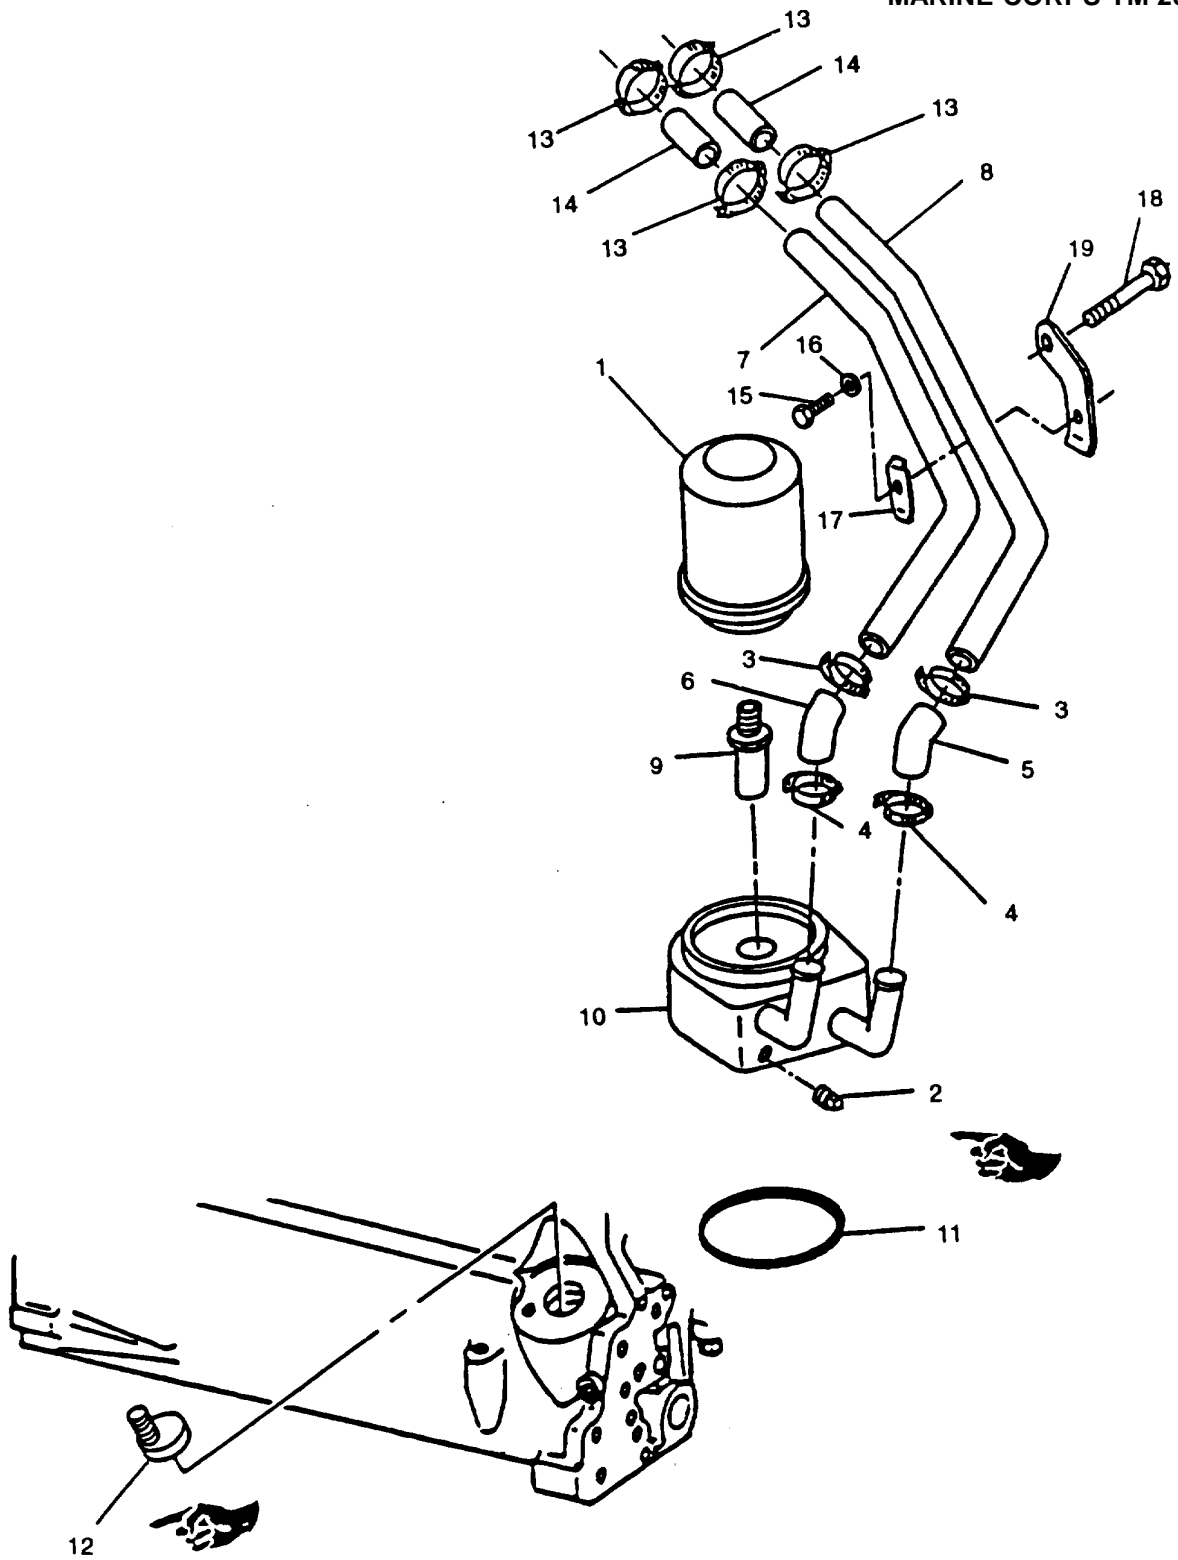

FIGURE 3-46. Oil Filter and Cooler
- b. Using a strap filter wrench, remove filter element (1, FIGURE 3-46) from oil cooler.
- a. Install oil filter nipple (12, FIGURE 3-46) in engine block as follows:
- b. Position new preformed packing (11, FIGURE 3-46) and oil cooler on engine block and secure with nipple (9). Tighten nipple to 27 ft-lbs (37 Nm).
- c. Install two hoses (5 and 6) and two clamps (4) on oil cooler. Do not tighten clamps.
- d. Install two hoses (14) and two clamps (13) on water pump. Tighten clamps.
- e. Connect tube (7) to hoses (6 and 14) using two clamps (3 and 13).
- f. Connect tube (8) to hoses (5 and 14) using two clamps (3 and 13). Tighten all clamps.
- g. Secure strap (19) to engine using existing screw (18).
- h. Secure tubes (7 and 8) to strap (19) using screw (15), flatwasher (16), and clamp (17).
- i. install plug (2) in oil cooler.